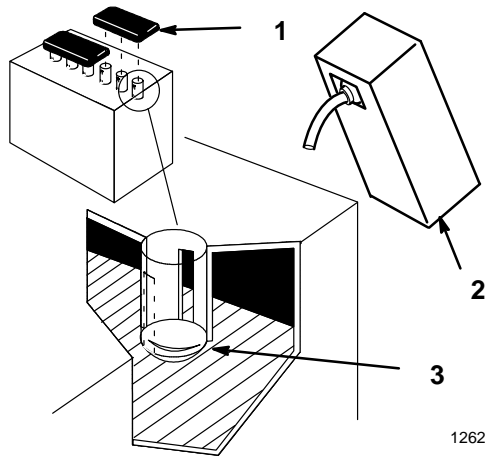

Figure 1
2. Remove filler caps from the battery. Slowly pour electrolyte into each cell until the electrolyte level is up to the lower part of the tube (Fig. 1).
5. Slowly pour electrolyte into each cell until the level is once again up to the "UPPER" line on the battery case (Fig. 1) and install covers.
6. Install the battery in the tractor and connect cables with (2) 1/4 x 3/4" bolts, (2) washers and (2) 1/4-20 locknuts: refer to the Operator's Manual, Installing the Battery.